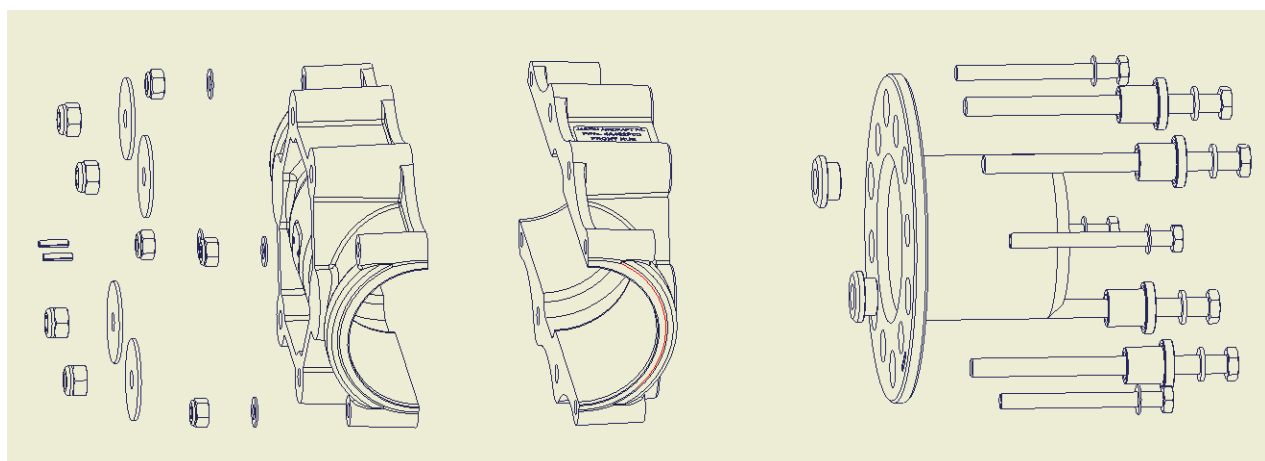

Figure 10 – Propeller Hub Assembly (Spinner and blades not shown)
- Ensure that Propeller drive bushes – 6 off, are in place in the Crankshaft Propeller Flange (note that two are special, short parts and face “backwards” compared to the others – see Figure 10). Fit the rear spinner backing plate to the flange.